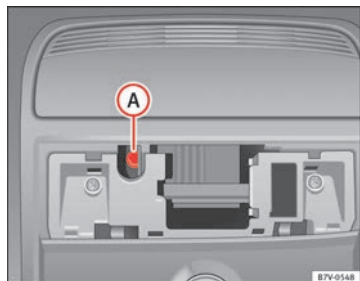

Fig. 197 Allen bolt to close the panoramic sliding sunroof
- Insert a standard 4 mm Allen key¹⁾ into the Allen bolt ⇒ Fig. 197 (A).